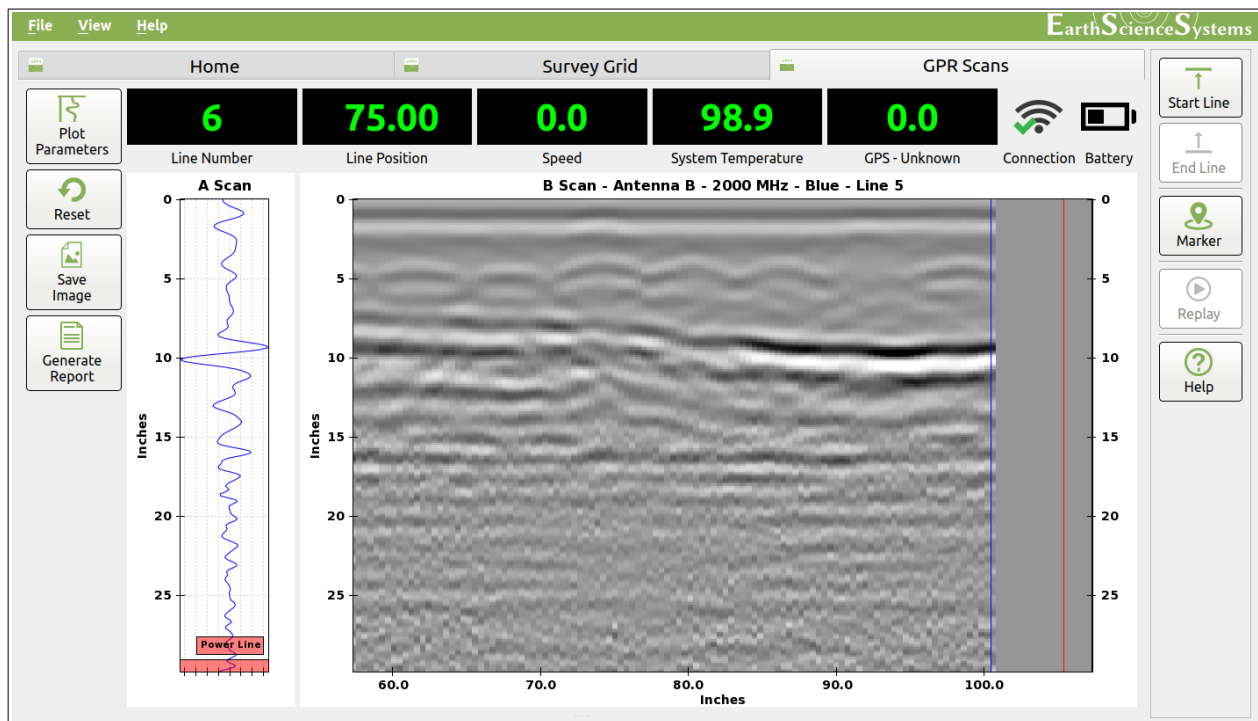

Figure 4: **GPR Scans** tab.
This tab is displayed (see Figure 4) by clicking the **GPR Scans** tab. The **GPR Scans** tab displays A-scan and B-scan plots that are useful for viewing GPR waveforms and ensuring
5. Start the data acquisition program by double tapping Surveyor Pro icon on the desktop. Press the Connect button to connect to the scanner. After a few seconds the program will display the GPR Scans tab and will start updating with data (see Figure 4). The green light on the scanner's power button will flash slowly when it is connected to the acquisition program on the tablet computer.
5. Start the data acquisition program by double tapping the Surveyor Pro icon on the desktop. Press the Connect button to connect to the scanner. After a few seconds the program will display the GPR Scans tab and will start updating with data (see Figure 4). The green light on the scanner's power button will flash slowly when it is connected to the acquisition program on the tablet computer.